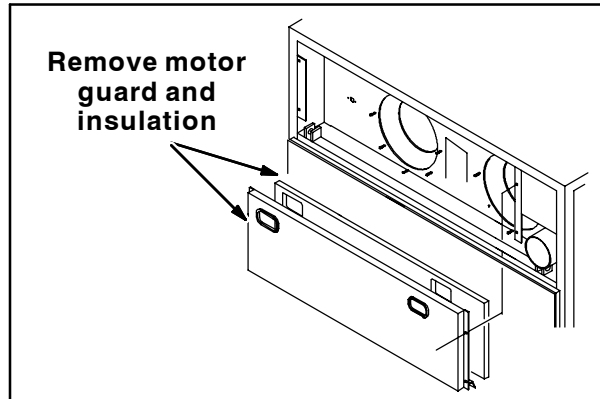

FIG. 10
15. Remove the motor guard and insulation from the hopper. Set the motor guard, insulation, and hardware aside. Refer to Fig. 10.